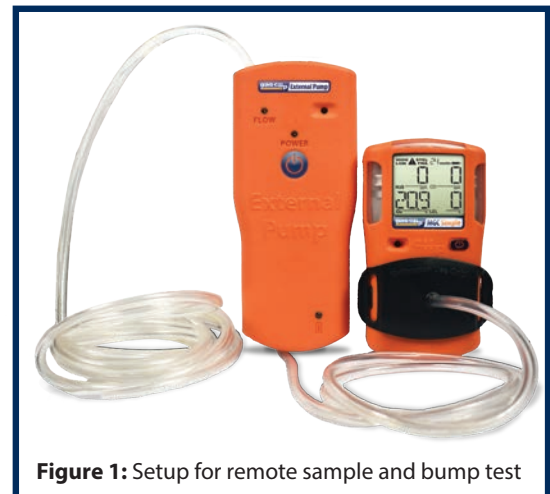

Figure 1: Setup for remote sample and bump test
1. Connect the detector, calibration cap, GCT External Pump and hoses as seen in **Figure 1**.